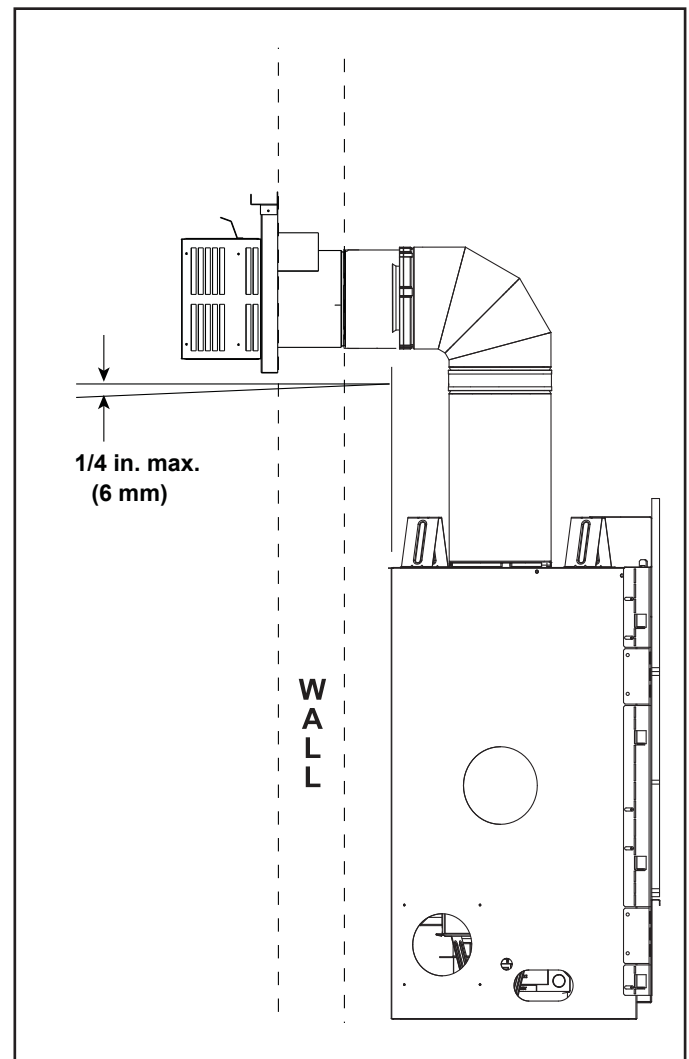

Figure 4.11 Vent Cap
- Horizontal termination cap should have a 1/4 inch downward slant to allow any moisture in cap to be released. See Figure 4.11.